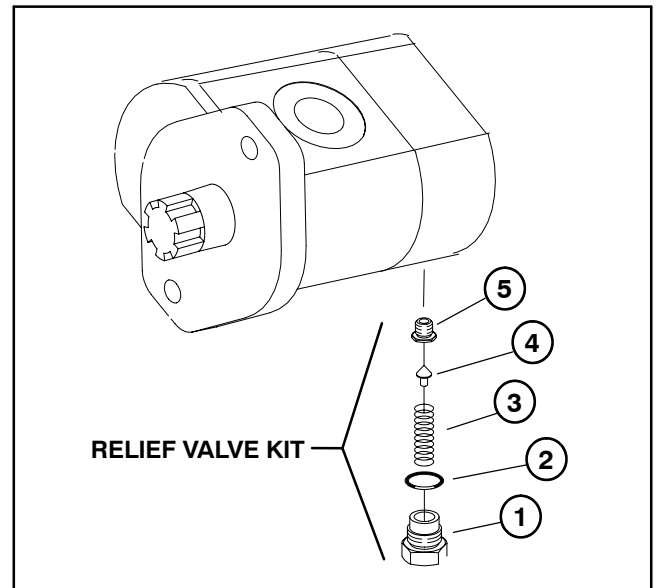

Figure 83
1. When removing or installing the relief valve, motor should be removed from deck and positioned horizontally with the relief valve pointed down (Fig. 83). This process will prevent the relief valve from falling into motor passages.